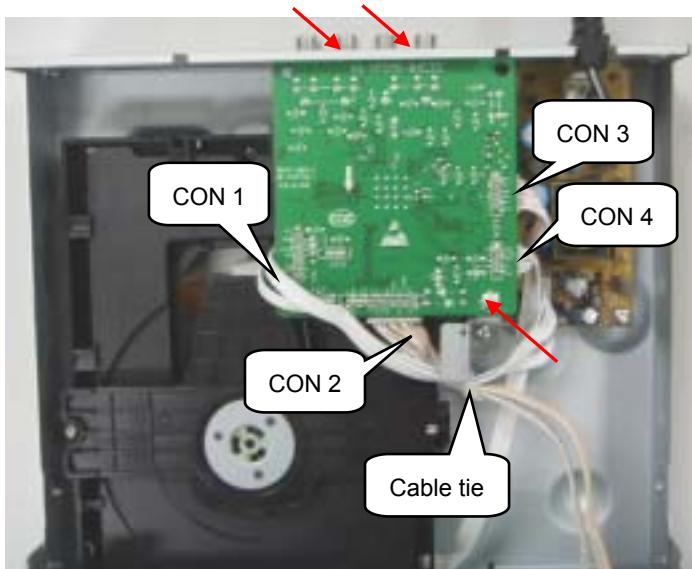

Figure 2
Step2: Dismantling Main Board, first disconnect the 5 connector and release the cable tie, then remove 3 screws to remove the Main board. (Figure 2&3).